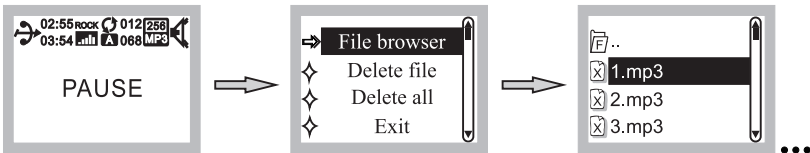

Fig. 24
- (1) File Brower: Press during playback and screen displays PAUSE. Press & hold to enter the directory option. Press or to sequentially select the directory option, Fig. 24.